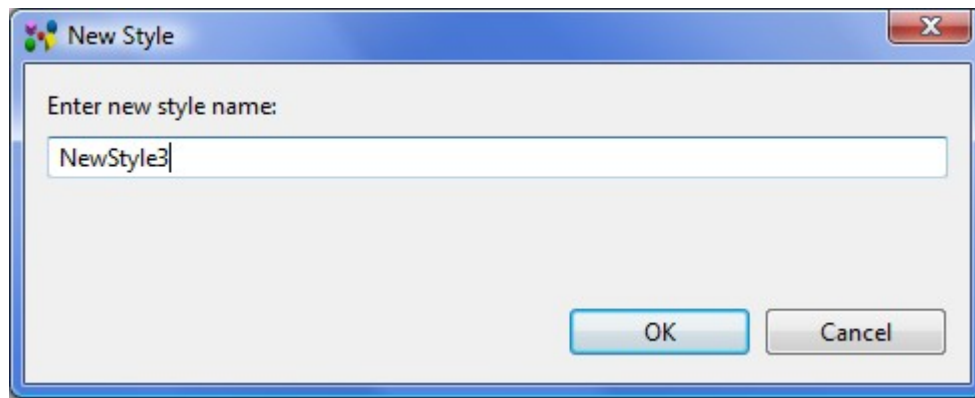

Figure 2. New Style wizard window
- Press **New Style...** button. The **New Style** wizard window appears on the screen (see Figure 2).